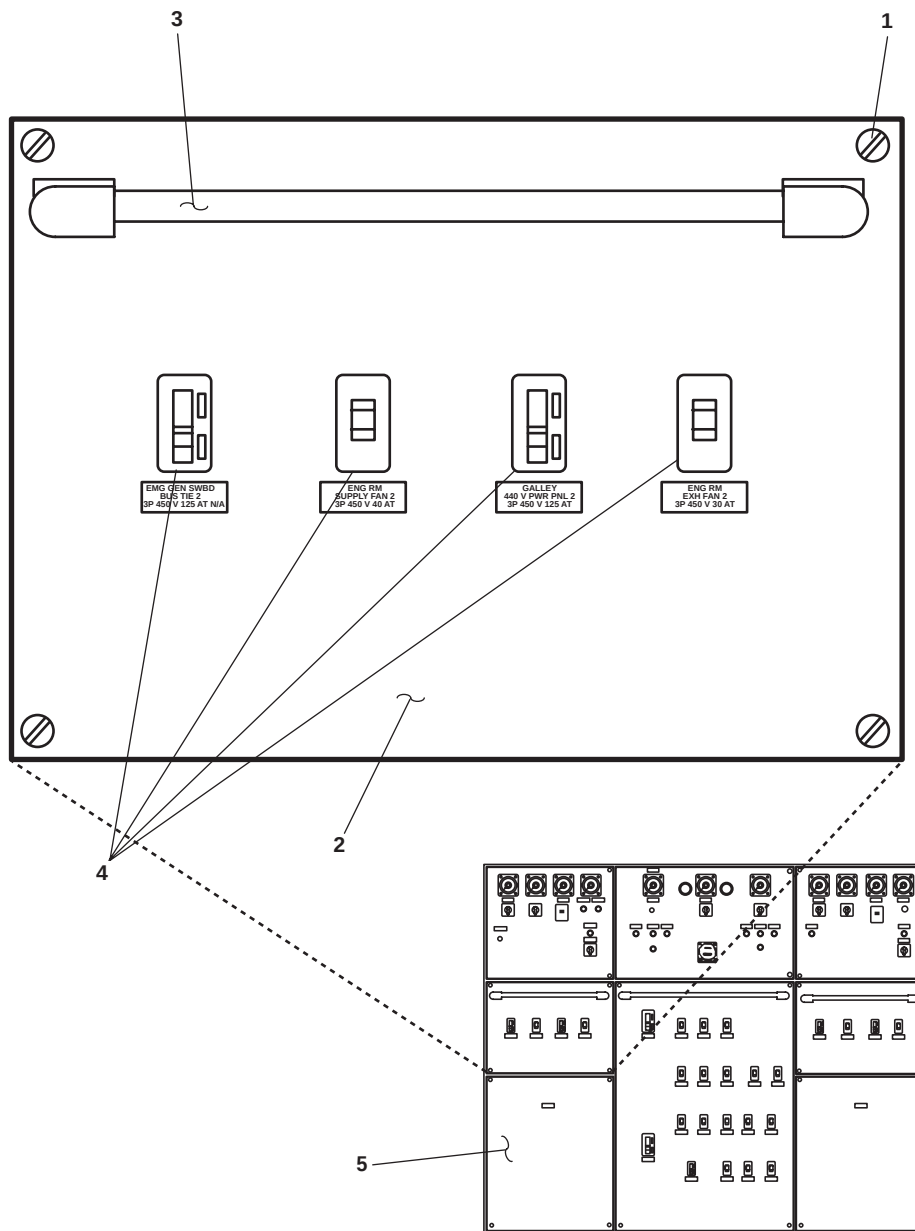

Figure 3. Main Switchboard Middle Left Panel
1. Loosen the captive screws (figure 3, item 1) on the door panel (figure 3, item 2).
2. Remove the door panel (figure 3, item 2) using the handrail (figure 3, item 3).
3. Use a multimeter to check for voltage at the applicable circuit breaker (figure 3, item 4). If voltage is present, ensure that the appropriate circuit breakers and engine fuel oil valves have been secured, locked out, and tagged out (FM 55-502). If no voltage is present, continue with the procedure.
4. Loosen the associated screws from the circuit breaker (figure 3, item 4).
5. Remove the circuit breaker (figure 3, item 4) from the main switchboard (figure 3, item 5).
1. Install the circuit breaker (figure 3, item 4) in the main switchboard (figure 3, item 5).
2. Tighten the associated screws on the circuit breaker (figure 3, item 4).
3. Install the door panel (figure 3, item 2) using the handrail (figure 3, item 3) on the main switchboard (figure 3, item 5).
4. Tighten the captive screws (figure 3, item 1).